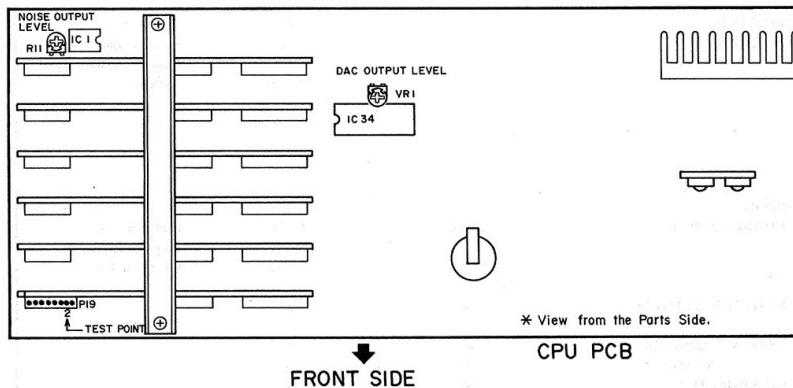

Fig. 4-27 Adjustment points of the CPU PCB
- 1) Select the library to "L03 [V1,]" and connect a digital DC voltmeter between pin ② of the connector P19 and GND (refer to Fig. 4-27).